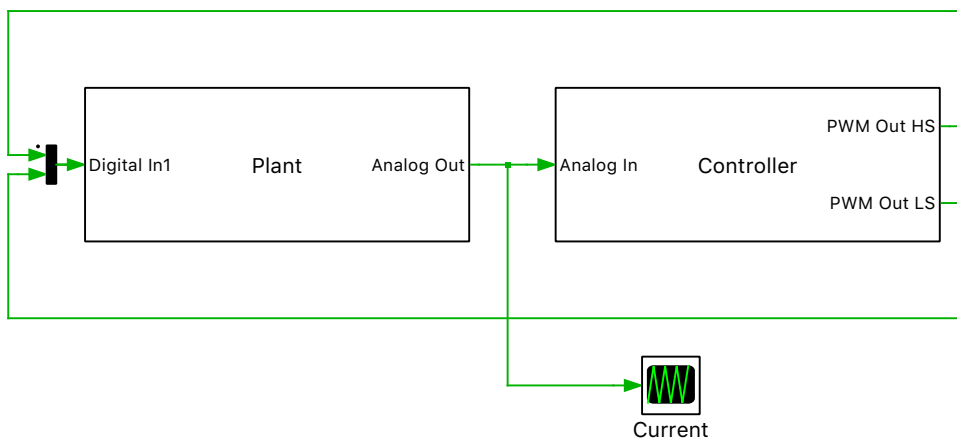

Figure 2: Overview of top-level schematic after step 4
- 3 Use the “Target Inport” feature of the RT Box library blocks to create an online and offline version of the systems within the same PLECS model. That is, place the existing RT Box library components into the corresponding “Plant” or “Controller” subsystem and then connect the control signals between the subsystems in the top-level schematic. Refer to Figure 2 for the arrangement of the top-level schematic (see also the tutorial “Introduction to the RT Box using PLECS”).